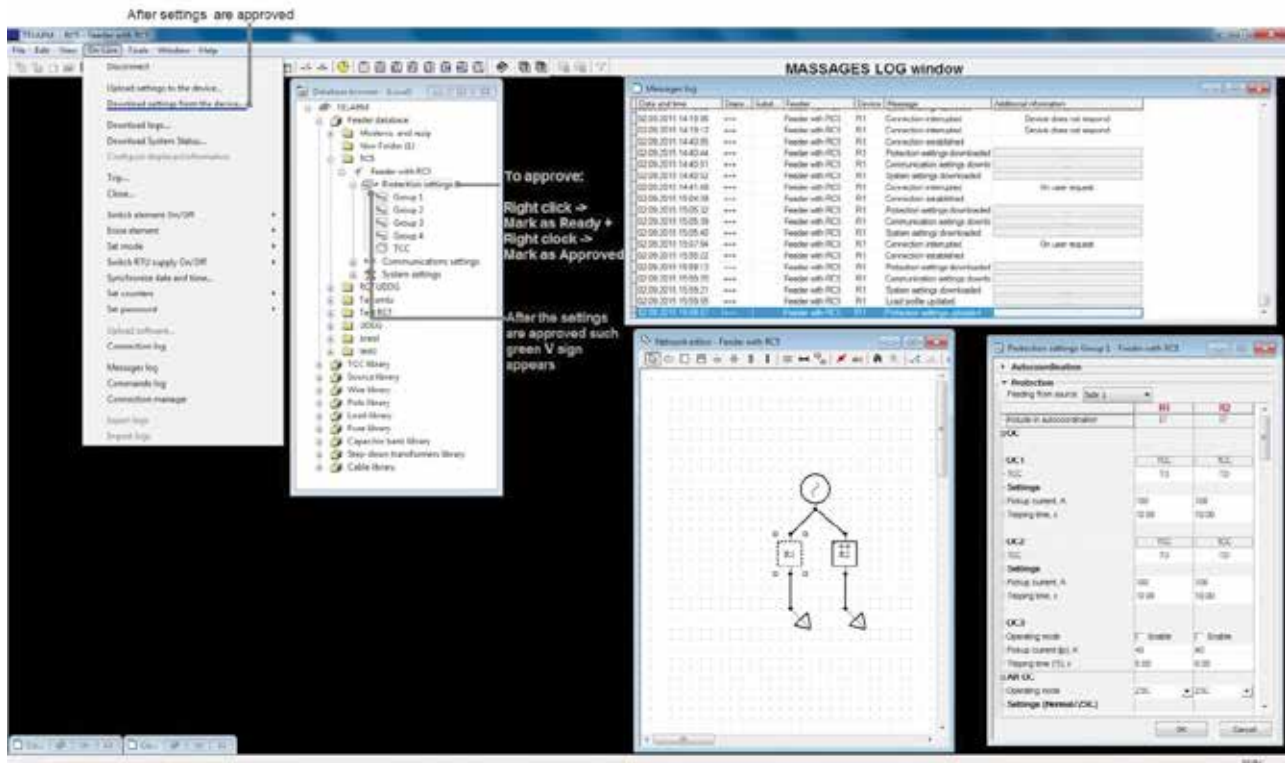

Figure 43
- 1) Right click on the submenu “Protection settings” in Database browser and choose “Mark as Ready” (Figure 43);
- 4) In "On-Line" menu click "Upload settings to the device..." (Figure 43);